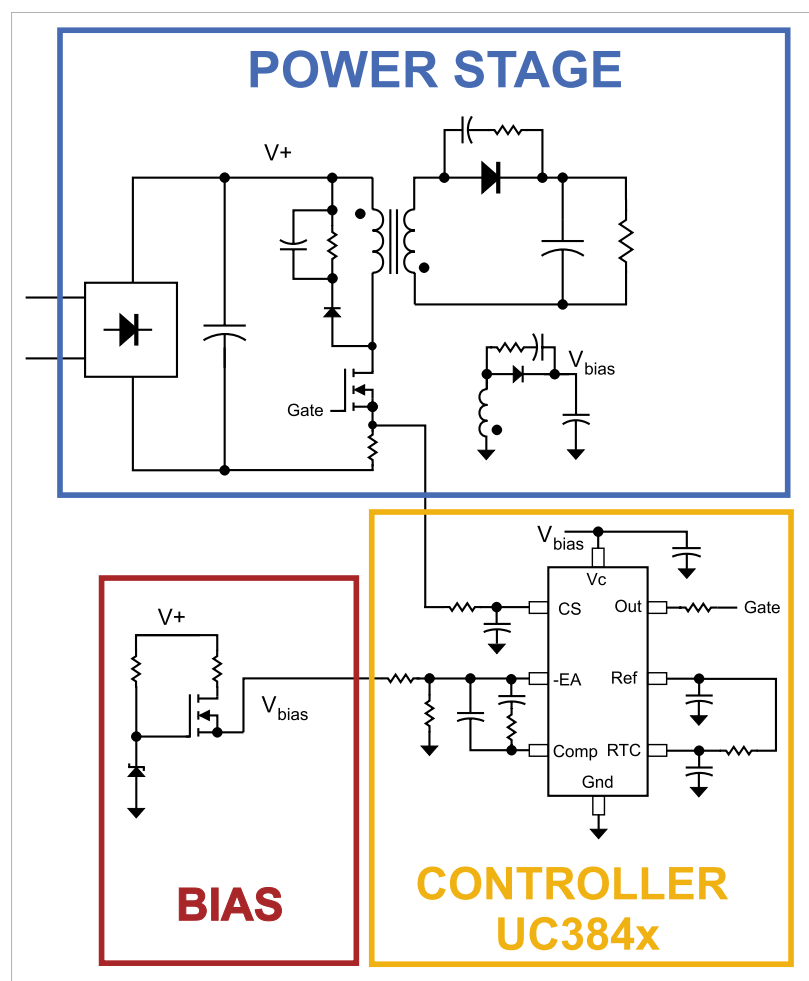

Figure 2: Schematic of an offline flyback converter with control and bias circuits
**Figure 2** shows the complete schematic of the flyback power-supply system. In this series of articles, each of the parts of this circuit will be discussed in detail, including test procedures.
The bias circuit shown in figure 2 consists of just a few parts. A FET is used as a linear regulator to start the control chip and its gate is fed by a resistor and zener diode combination.
The power stage shown in figure 2 includes a power FET with voltage clamp, current sensor, transformer, output diode with snubber, and output capacitor. A second output winding on the transformer, together with another diode and capacitor, feeds the bias circuit voltage.